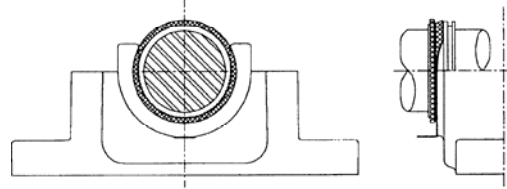

Figure 2c
- Locate the bearing and seal assembly(ies) into the housing base (Figure 2c). Make sure the seal assembly(ies) turns freely in the base by rotating shaft. See bearing mounting instructions for proper grease fill of bearing insert and housing.